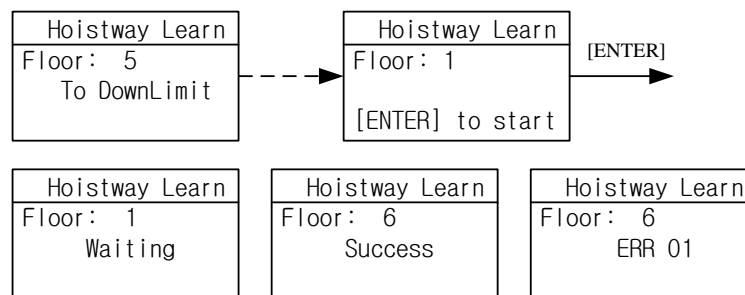

Figure 5.1 Hoistway Parameter Self-Learning Procedures
4. Enter elevator hoistway self-learning menu through digital operator, follow the learning procedures shown below in Figure 5.1